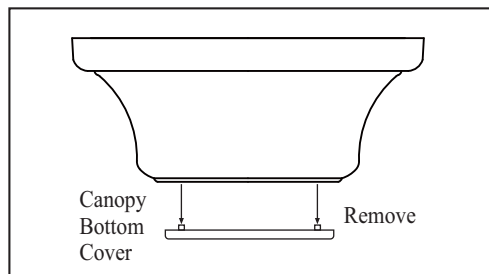

Figure 9
3. Remove the decorative canopy bottom cover from the canopy. (Figure 9)